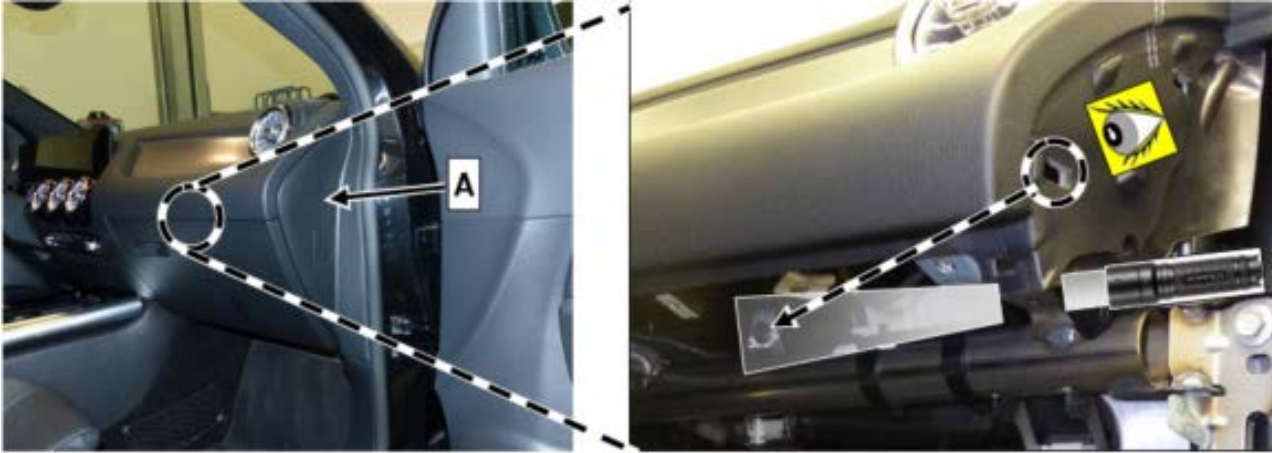

Figure 1
1. Remove cover (**A, figure 1**) at side at instrument panel.